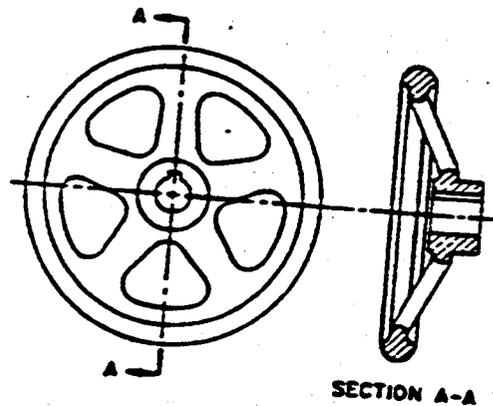

Fig 1-30. Aligned section.
- (7) Aligned section. Look at the front view of the handwheel in figure 1-30 and notice the cutting plane line AA. When a true sectional view might be misleading, parts such as ribs or spokes are drawn as if they are rotated into or out of the cutting plane. Notice that the spokes in section A-A are not sectioned. In some cases, though not in this figure, if the spokes were sectioned, the first impression would be that the wheel had a solid web rather than spokes.